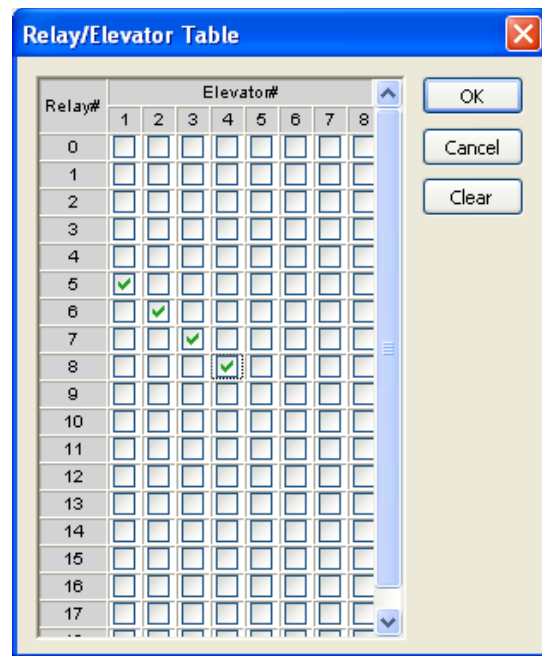

Figure 39
3. Click the box under the elevator number that the corresponding system relay is to control. In this example, elevator 1 is controlled by system relay 5, elevator 2 by relay 6, elevator 3 by relay 7, and elevator 4 by relay 8 (Fig. 39).